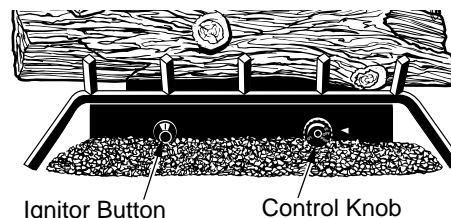

Figure 40 - Control Knob and Ignitor Button Location
4. Wait five (5) minutes to clear out any gas. Then smell for gas, including near the floor. If you smell gas, STOP! Follow "B" in the safety information in column 2, page 18. If you don't smell gas, go to the next step.
5. Turn control knob counterclockwise  to the PILOT position. Press in control knob for five (5) seconds (see Figure 40).